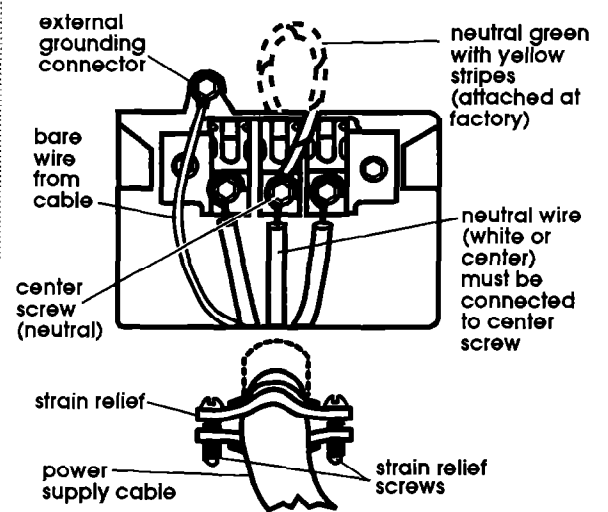

Figure 11
7. Connect the power supply cable (bare) grounding wire to the external grounding conductor screw (Figure 11).